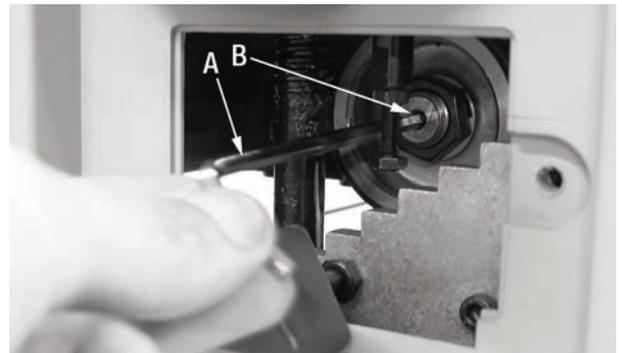

FIGURE 14
- 4) Insert the supplied 4 mm hex. key (A) Fig.14 into the cutterhead shaft (B) to immobilize the cutterhead shaft.